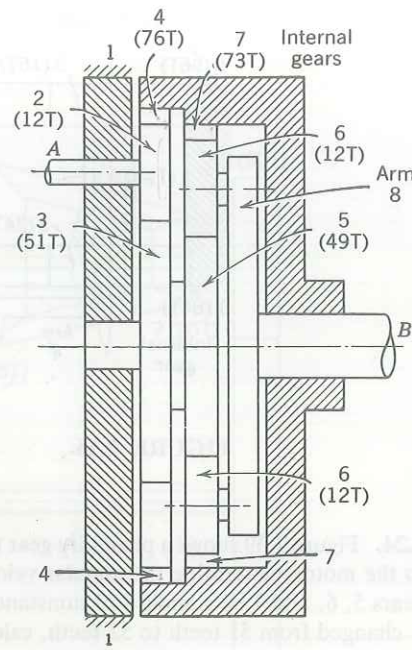

FIGURE 7.39
7.24. Figure 7.39 shows a planetary gear train for a large reduction. (a) If shaft A connects to the motor, determine the angular-velocity ratio ω_A/ω_B . (b) Will gears 2, 3, and 4 and gears 5, 6, and 7 be standard or nonstandard? Why? (c) If the number of teeth in gear 3 is changed from 51 teeth to 52 teeth, calculate the angular-velocity ratio ω_A/ω_B .